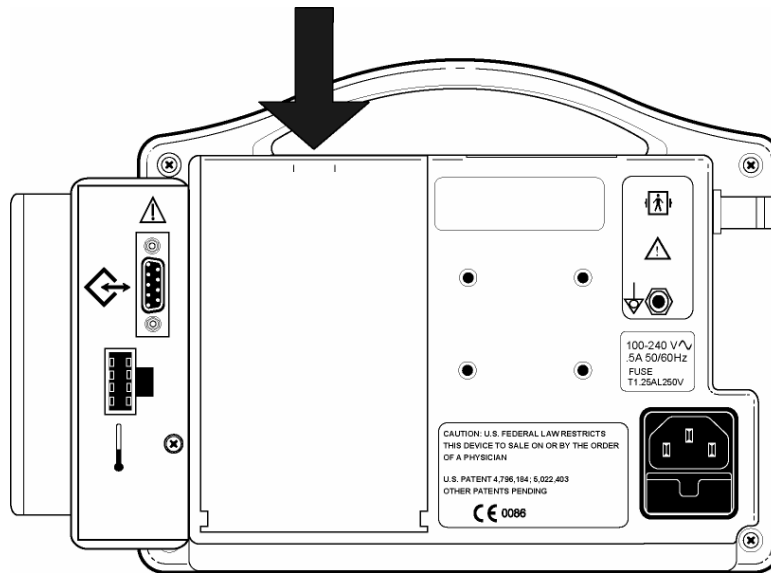

Figure 25: Removing the Monitor Battery Pack
- 3) Carefully remove the battery pack from the rear panel of the monitor. Refer to Figure 25.